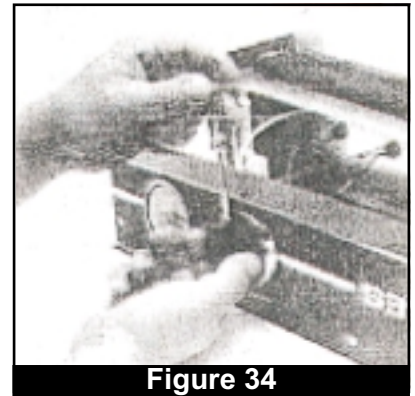

Figure 34
3. Remove thermostat dial from front panel by rotating the dial to expose the set screw and reversing the set screw with a small flathead screwdriver. (Fig. 34)